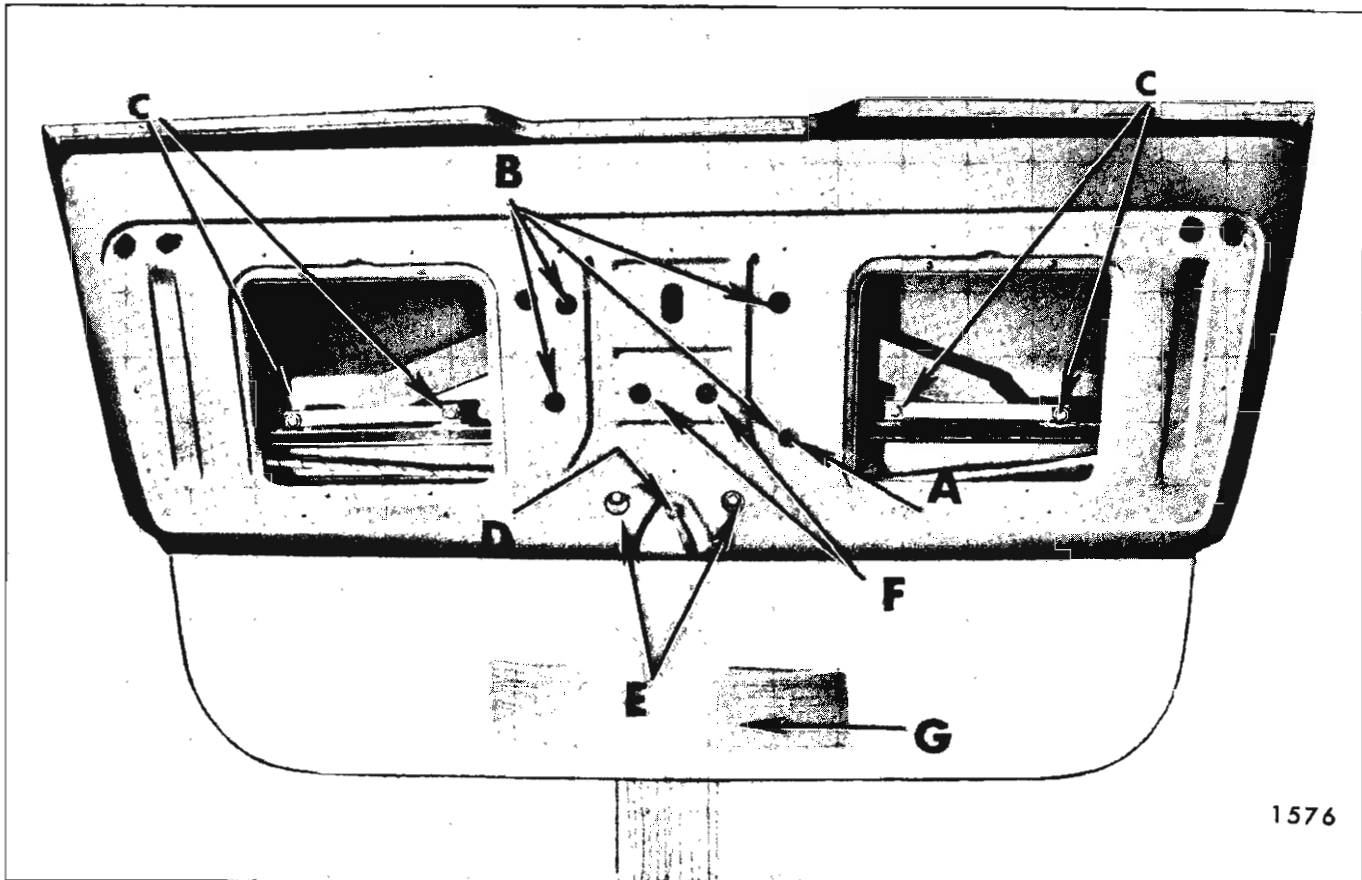

Fig. 2F23—Tail Gate Window Hardware
5. Loosen regulator right attaching screws (Fig. 2F24). Remove three regulator motor attaching screws (Fig. 2F24) and remove motor assembly from regulator and tail gate.